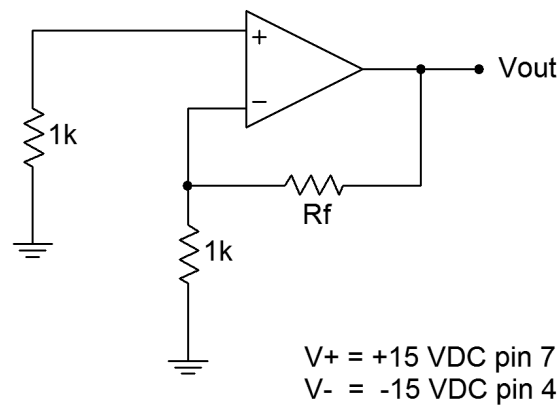

Figure 1
1. Note that the circuit of Figure 1 is a non-inverting voltage amplifier. Calculate the voltage gains for the amplifier of Figure 1 for the R_f values specified, and record them in Table 1.
9. Build the circuit of Figure 1 in a simulator using a 741 op amp and 47k for R_f . Run a DC Operating Point analysis to determine the DC output voltage. Compare this to the results measured in Tables 1 and 2. Repeat the simulation with all resistors 10 times larger, and again with all resistors 100 times larger.